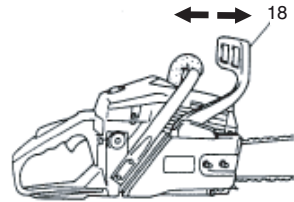

Fig. 16
**Chain brake operation (Fig. 16)**